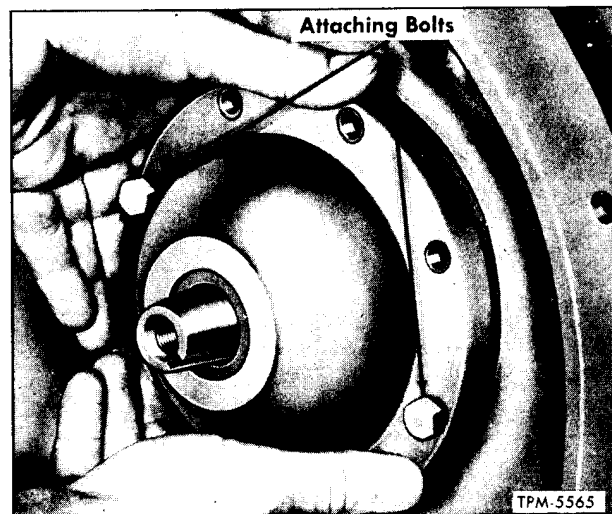

Figure 49—Method of Removing Crankshaft Seal Cover
1. Loosen and remove all but two opposed cap screws which retain seal cover (3) to compressor housing (1) (fig. 49). Slowly and alternately turn remaining two cap screws from housing making sure seal cover follows screws. Seal spring should force cover from compressor housing. If necessary, tap cover lightly with plastic hammer to break seal between cover and housing.
2. Remove seal cover evenly from compressor shaft so as not to damage seal assembly (41). Pull seal assembly carefully from compressor shaft.
3. Remove rubber O-ring seal (4) from seal cover or bearing head.